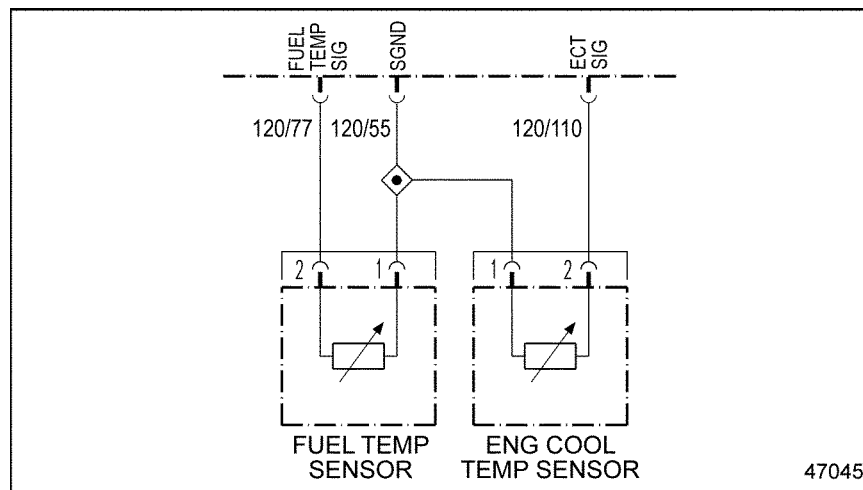

Figure 13-1 Supply Fuel Temperature Sensor
2. Measure the resistance across pins 1 and 2 of the SFT Sensor. See Figure 13-1.